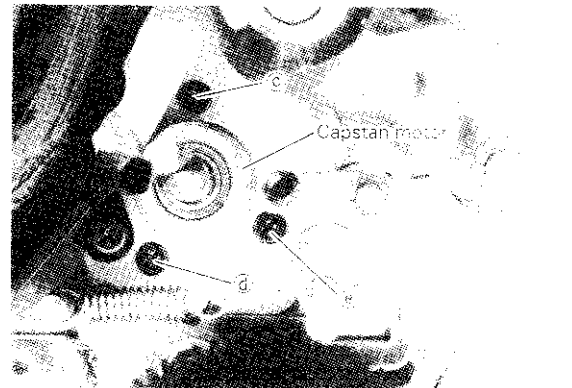

Fig. 3-7-2
- (6) While fixing the capstan motor firmly, take off three fixing screws (③, ④, ⑤; Fig. 3-7-2) from the front side of the main plate, and take out the capstan motor slowly from the rear side of the main plate using care so that the motor may not come in contact with any peripheral part.
- (1) From the rear side of the main plate, attach the capstan motor carefully so that the motor may not come in any peripheral part, then fix from the front side of the main plate with three fixing screws (③, ④, ⑤; Fig. 3-7-2).